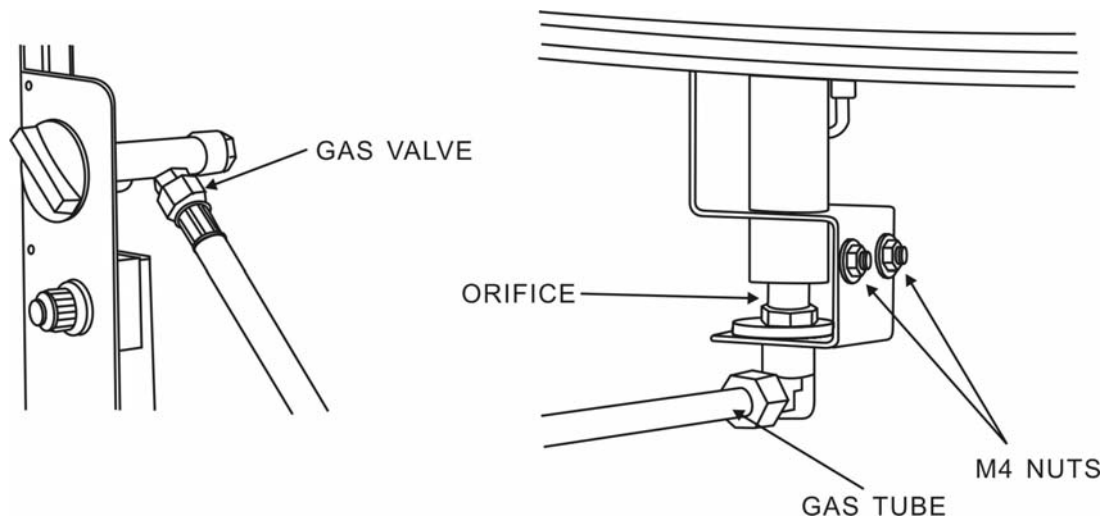

Figure 8
1. Disconnect the regulator hose from the gas valve. See Figure 8.